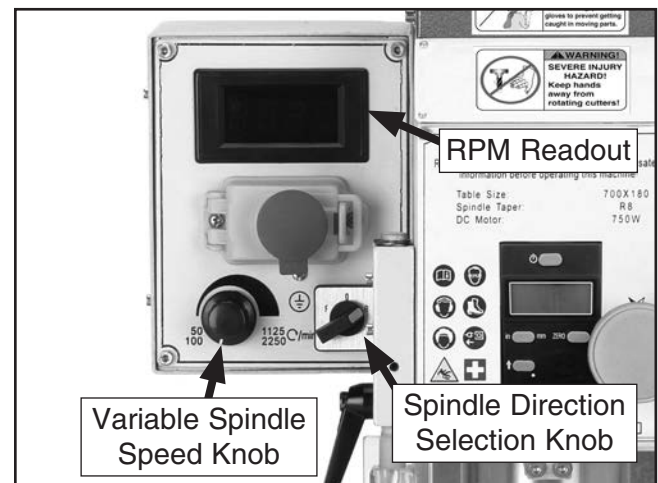

Figure 24. Spindle direction selection knob.
4. Turn the variable spindle speed knob to the far left (slowest) position, then press the green start button and use the spindle direction selection knob to choose the direction of spindle travel and start spindle rotation (**Figure 24**).